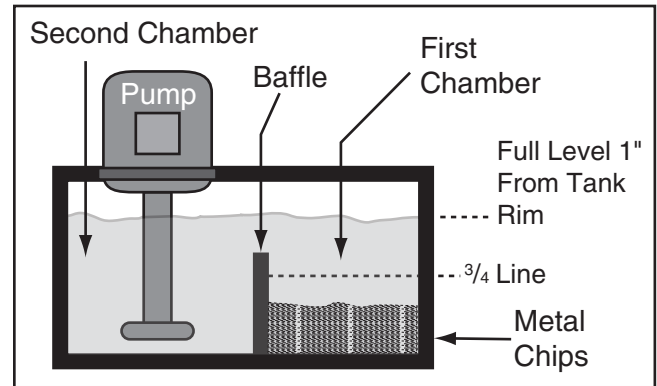

Figure 95. Diagram of cutting fluid tank.
4. Using a wooden stick, check the level of the metal chips in the first chamber (see **Figure 95**). If the chips are $\frac{3}{4}$ the height of the baffle, then remove the chips.